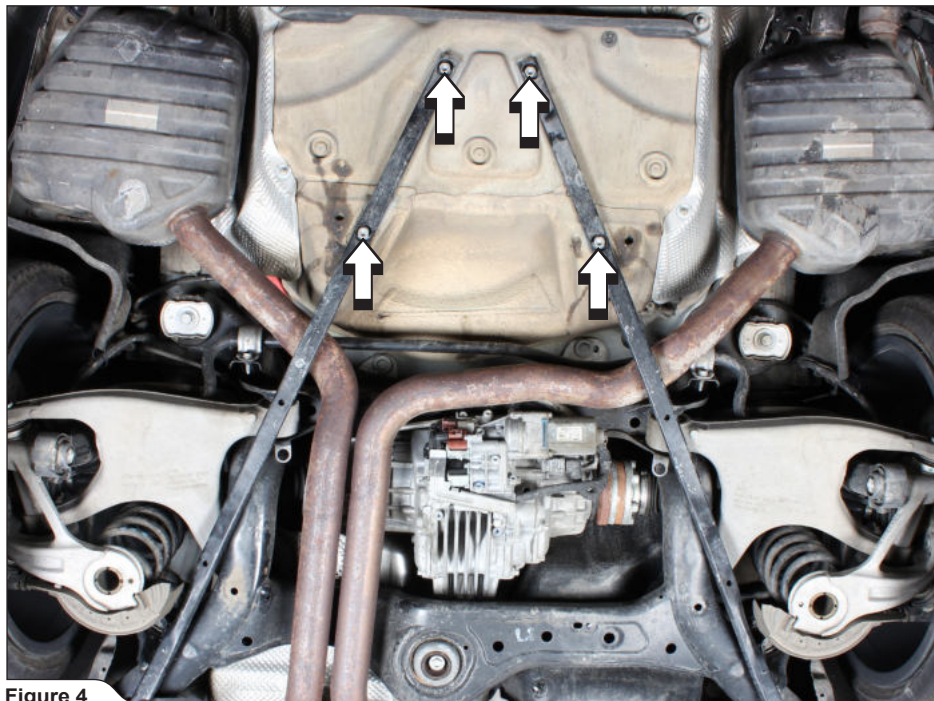

Figure 4
2. Unscrew the rear chassis reinforcements (Figure 4, 5).